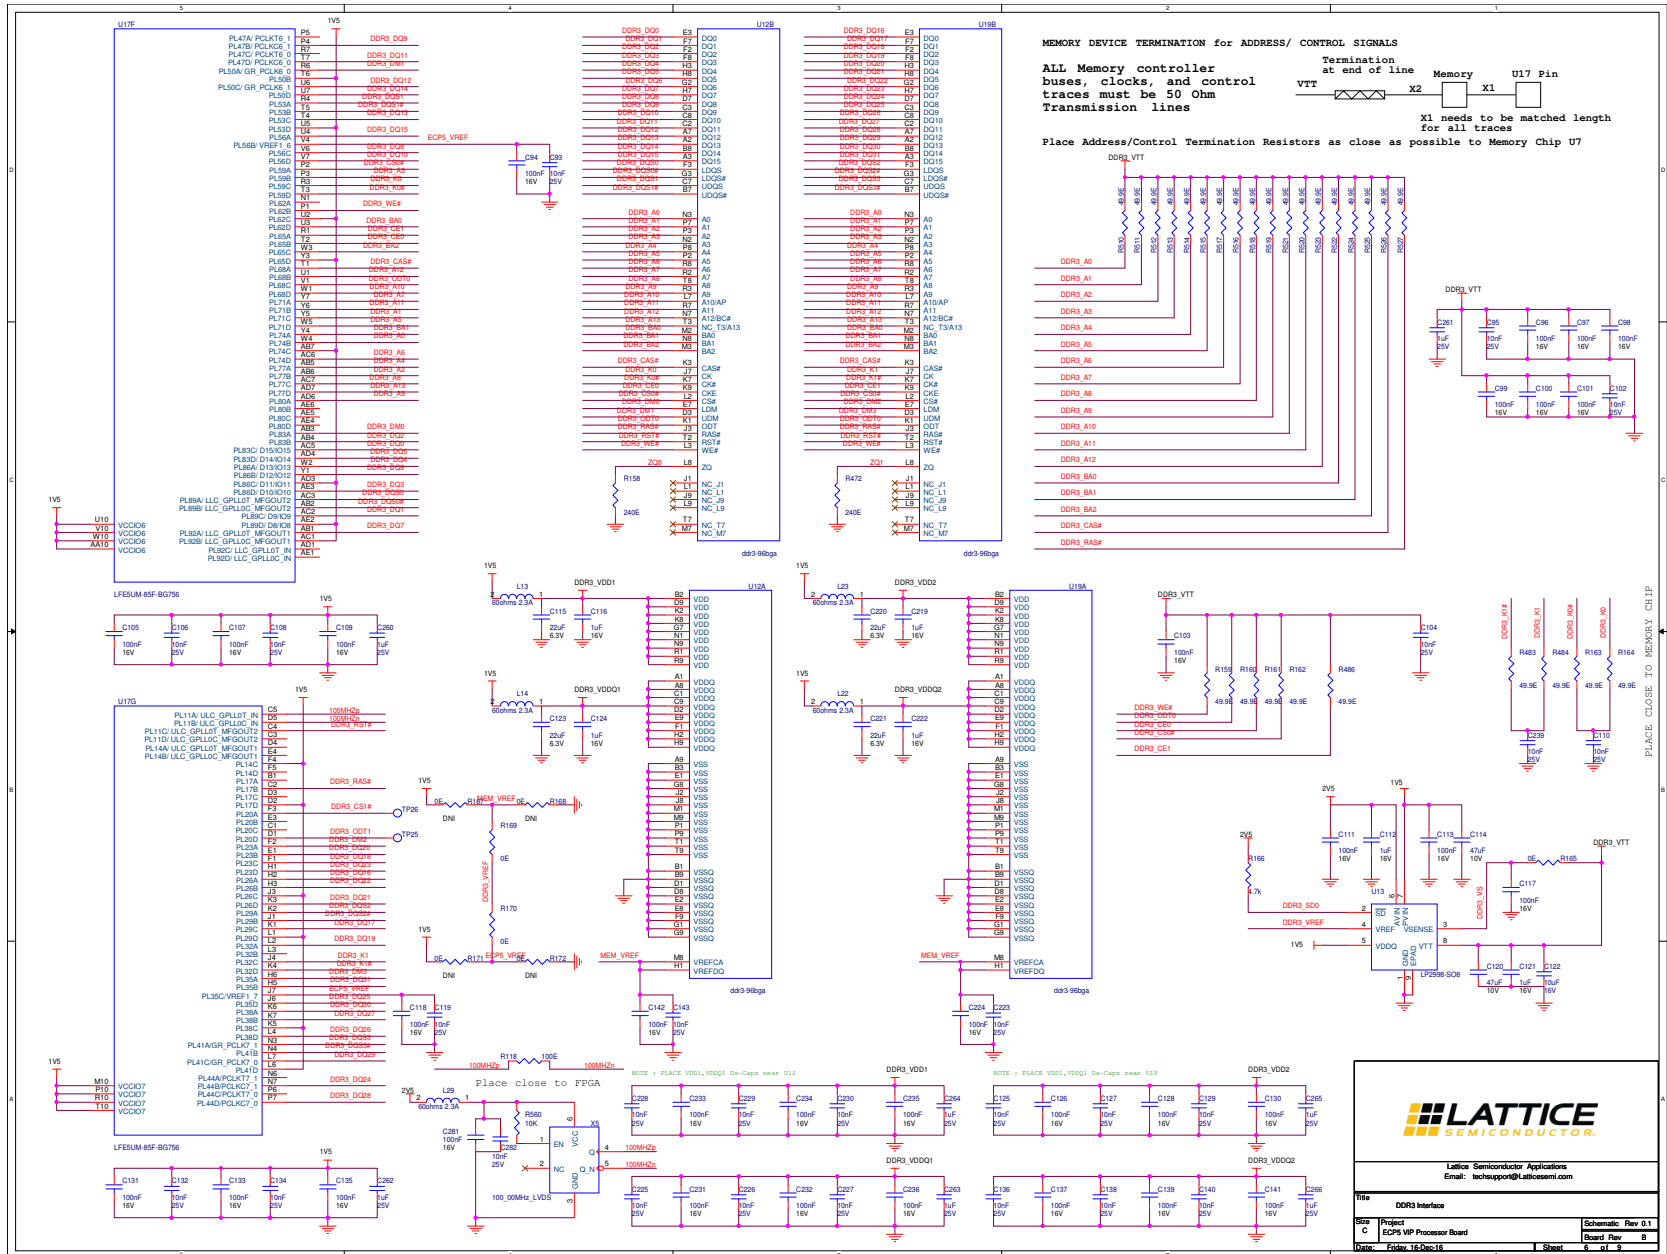

Figure C.1. DDR3 Interface Revision B
- The DDR interface has individual CKE signals for each DDR3 device, DDR_CE0 and DDR_CE1. Later revisions of the board only have DDR_CE0 which is routed to CKE of both DDR3 devices. See Figure C.1 for the schematic of Revision B.